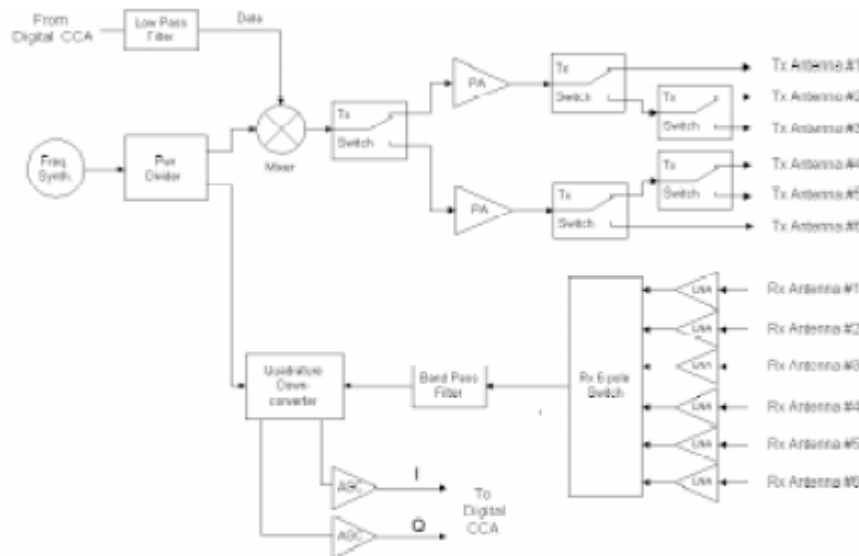

Figure 4: Interrogator RF Circuit Card Assembly Block Diagram
- it provides a continuous wave (CW) carrier for the tag backscatter, and
A synthesizer is built onto the CCA to tune the RF CW carrier for frequency hopping and band selection. Figure 4 shows a functional block diagram of the RF CCA. The transmitter receives data from the Digital CCA. This data is low-pass filtered and then amplitude modulated (AM) onto a carrier using a mixer. The signal is then amplified by one of two power amplifiers (PA) and sent to the output select switch for transmission through one of six antennas. During CW transmission for backscatter mode, the mixer is biased to the on state. When the transmitter is in CW mode, the tag backscatters the signal with a DPSK modulated sub carrier. This signal is received via one of the six antennas and is amplified by a low noise amplifier (LNA). The signal is coherently downconverted using a quadrature downconverter. The amplitude of the signals are then set using automatic gain controls (AGCs). The I and Q signals, which contain the DPSK modulated subcarrier, are then passed to the DPSK CCA for demodulation.